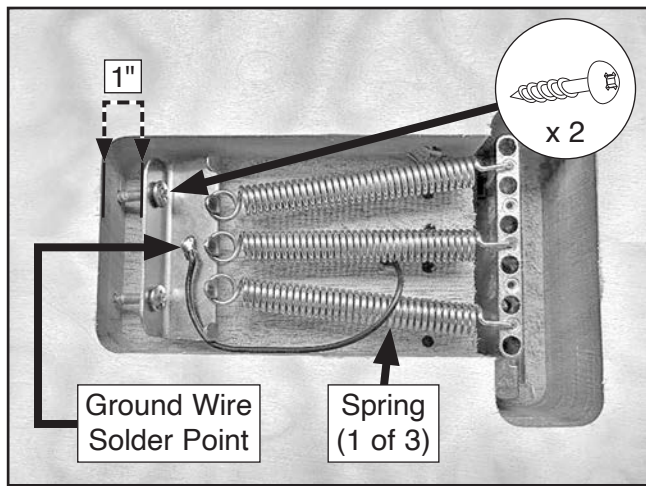

Figure 12. Springs and spring hanger installed.
6. Secure spring hanger to guitar body with (2) M4 x 32 wood screws, as shown in **Figure 12**. Tighten screws until spring hanger is 1" from wall of cavity.
7. Clean a spot on top of spring hanger, then solder black ground wire from **Step 2** on **Page 9** of owner's manual to spring hanger, as shown in **Figure 12**.
8. Stretch three springs from spring hanger to tremolo bridge, as shown in **Figure 12**.